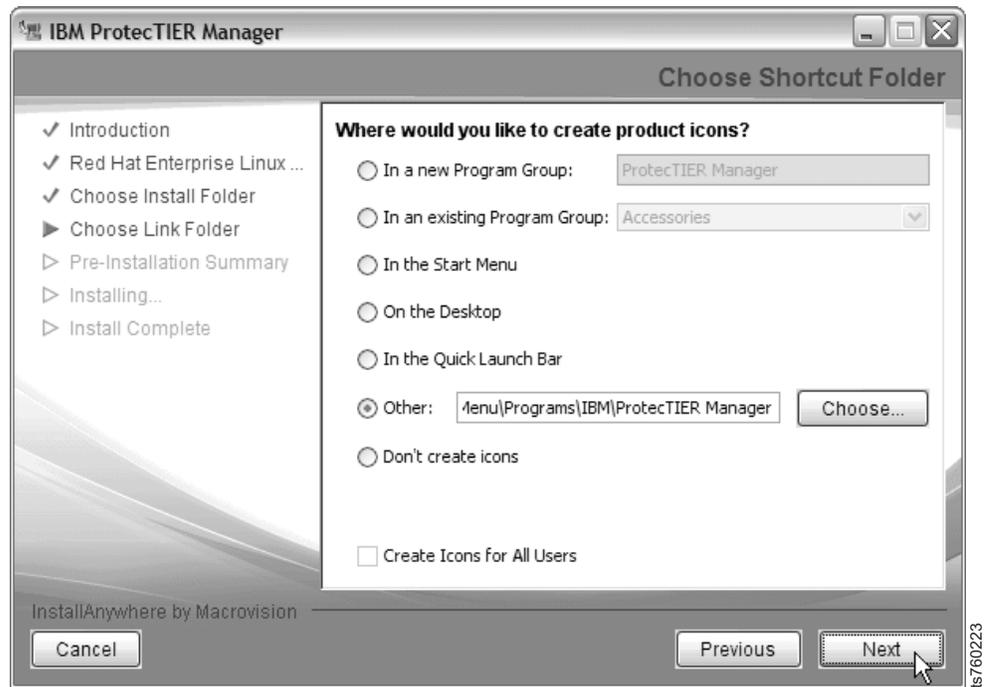

Figure 23. Choose Shortcut Folder window
5. Specify the folder where the ProtecTIER Manager program files are to be installed, and click **Next**. The Choose Shortcut Folder window opens (Figure 23).